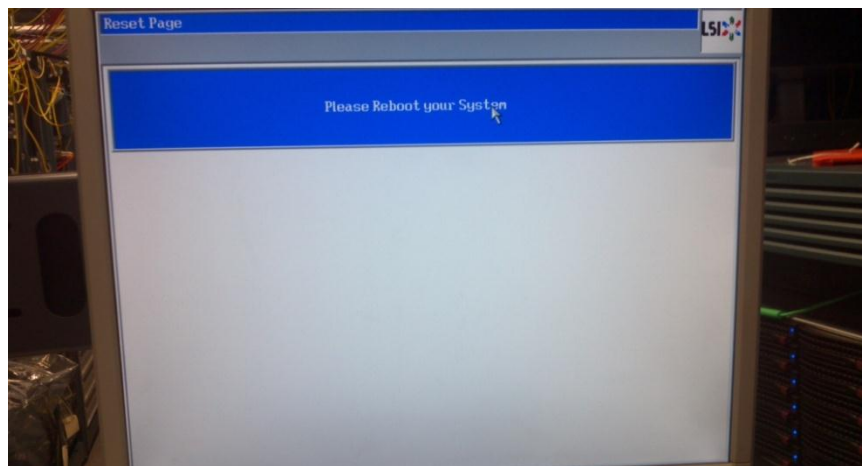

Figure 32: LSI Reboot prompt
9. Select exit >yes >reboot the server by turning on and off the power button. Please see figure 32 below